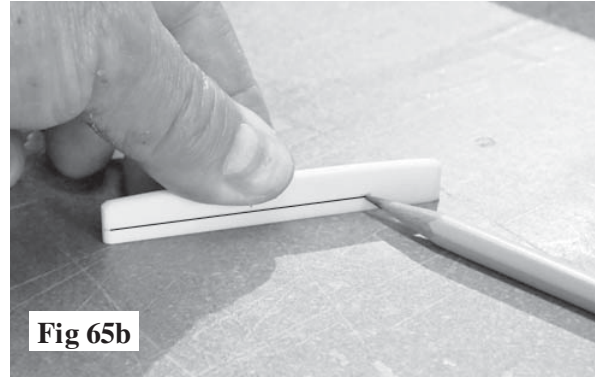

Fig 65b
b) If the fretboard is pretty straight, and the string is still too high above the 12th fret, then you need to shave the saddle a little lower at the bridge. Loosen the string so you can remove the saddle. We like to draw a pencil line near the bottom of the saddle to guide our sanding process (fig 65b). You can sand the bottom of the saddle with a coarse sanding block, checking to make sure the bottom edge stays parallel with your pencil line. You don't need to sand all the way to the line -- just use it as a reference point. Note that sanding a certain amount off the saddle will reduce the string height by half of that amount at the 12th fret (midpoint). Replace the saddle in the bridge again and tighten the string to test the gap at the 12th fret.